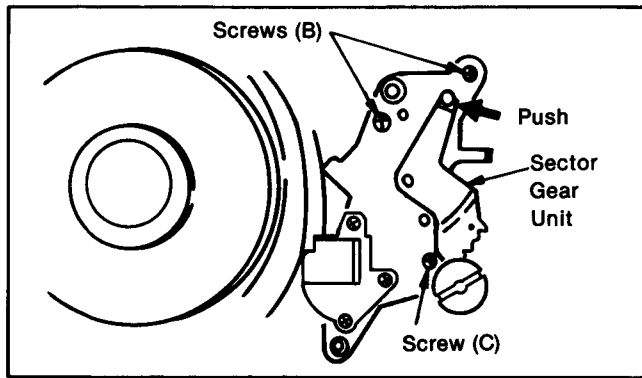

Fig. M12
- (5) Remove 2 screws (B). Then remove screws (C) While slightly pushing on the Sector Gear Unit to remove screw (C) as shown in Fig. M12. Then remove the A/C Head Base Unit.